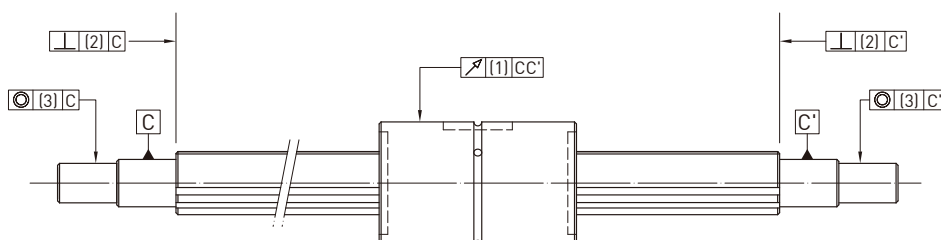

Figure 5-1. Measurement items of the accuracy of RS type ball spline
The grade of accuracy of the ball spline is expressed in terms of oscillation of the outer diameter of the spline nut against the supporting part of the spline shaft. It is divided into normal (C), high (H) and precision (P) which are shown in Figure 5-1.